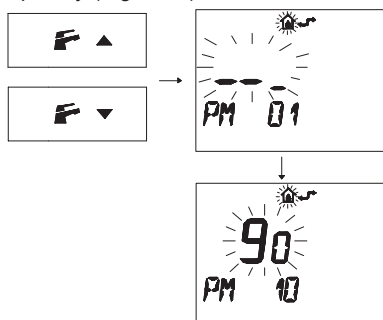

Fig. 7.41
- Press buttons **F** and **▲** or **F** and **▼** to display the "PM10" program for selecting the ignition frequency (Fig. 7.41).
In Fig. 7.41 a SET programmed at **90** is displayed corresponding to a re-ignition time of about 3 minutes.